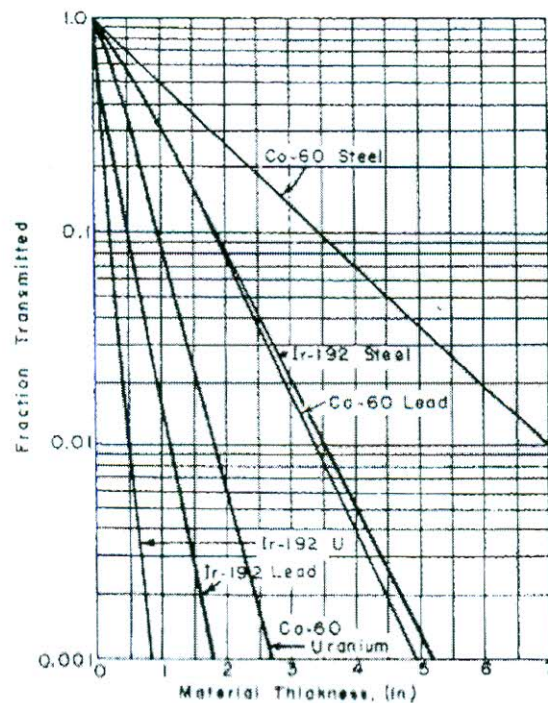

Figure 2
3. [a] Figure 2 shows fraction transmitted of X-ray for different material. Explain how to interpret this graph and discuss the importance of this data in industrial radiographic testing.